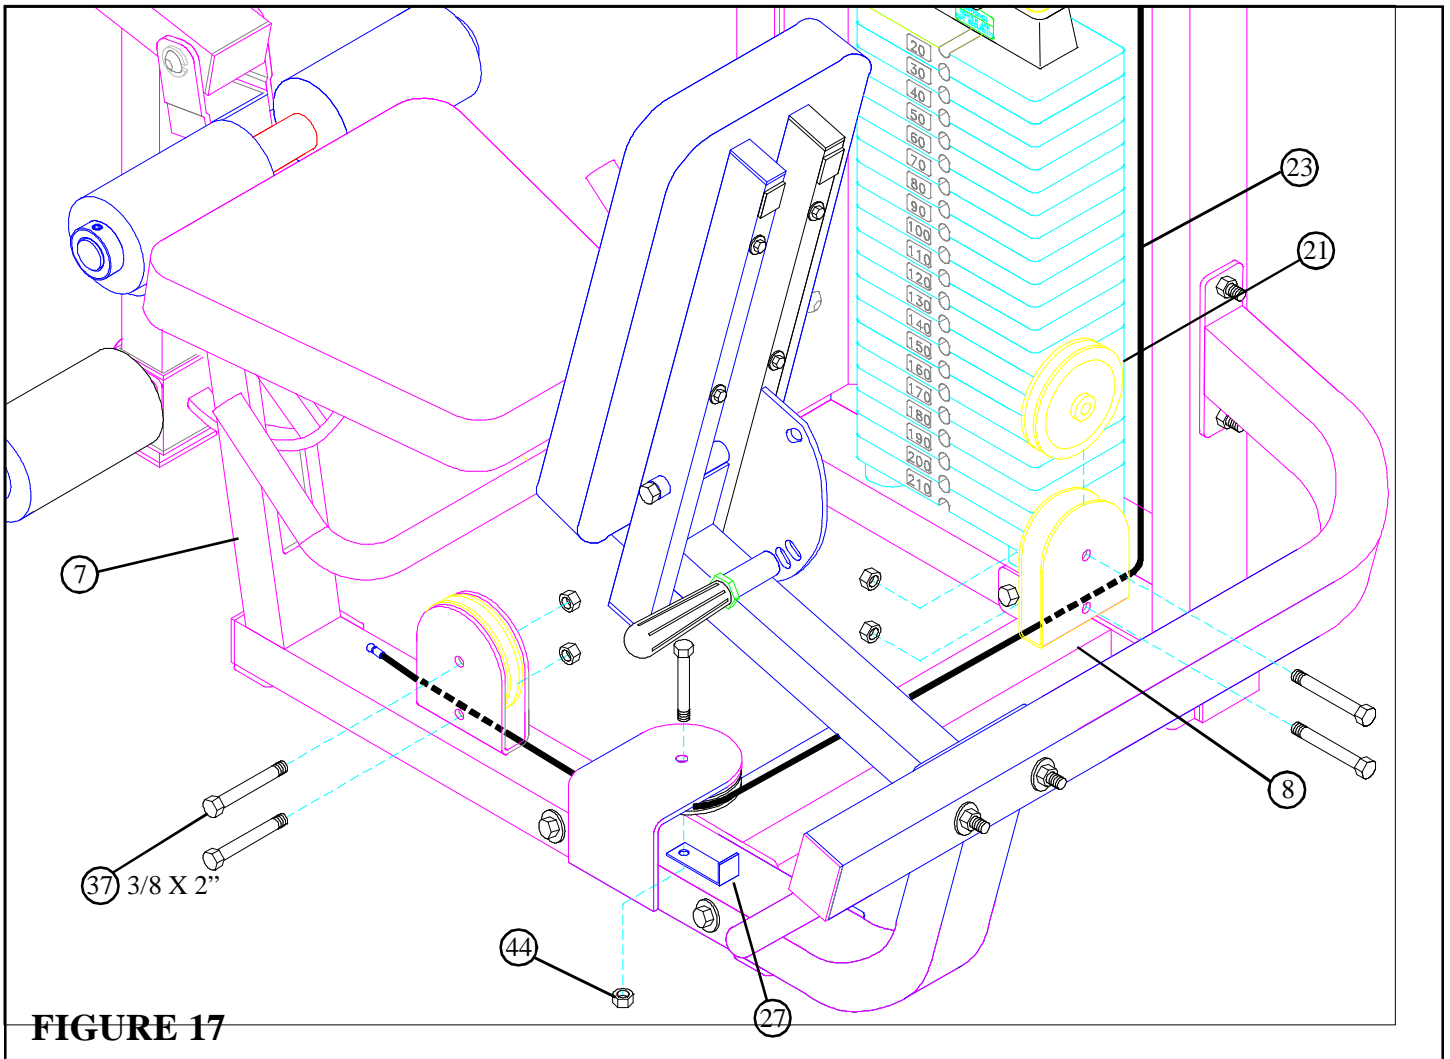

FIGURE 17
- **SECURELY** assemble three 4-1/2" PULLEYS (21) to the brackets on the BENCH FRAME (7) and LOWER CROSS SUPPORT (8), using four 3/8 X 2" BOLTS (37), one 2-7/8" CABLE CLIP (27), and four 3/8" LOCK NUTS (44) as shown in FIGURE 17. (NOTE: Position the 2-7/8" CABLE CLIP before tightening and make sure the CABLE is running over the 3/8 X 2" retaining bolt.)
- Make sure the CABLE (23) is routed around all pulleys as shown in FIGURE 17.